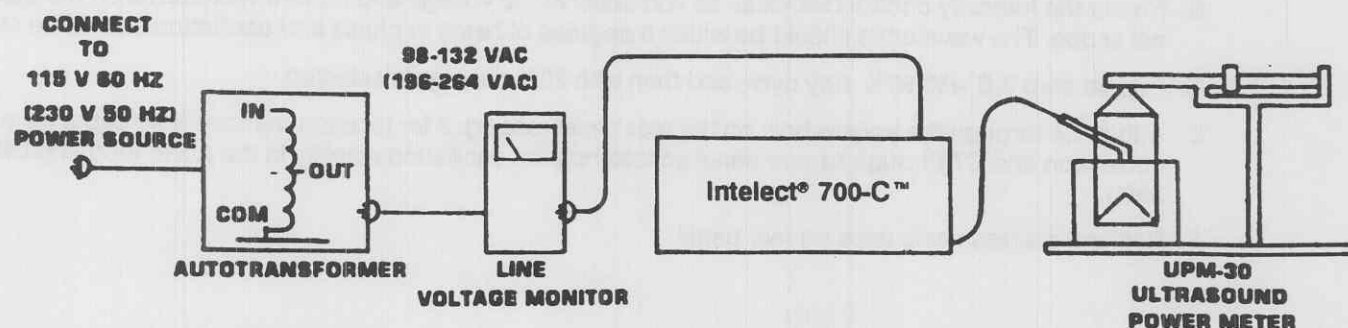

Figure 7
- A. Connect the test setup as shown in Figure 7.
- C. Set AC input voltage with the autotransformer to 115 (230) VAC line monitor.